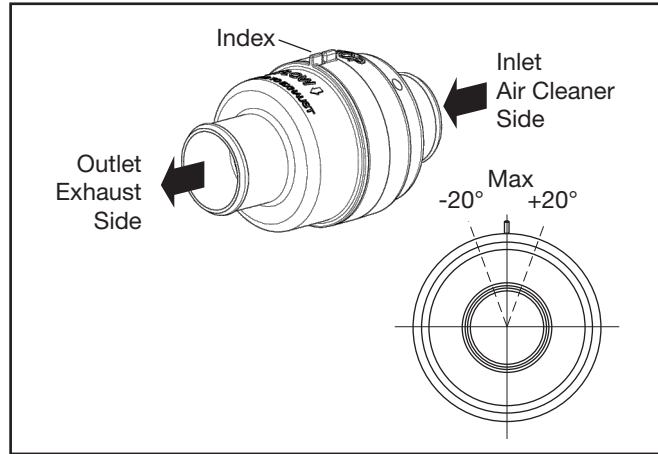

Figure 1 - Check Valve
4. The check valve must be located between the exhaust aspiration device and the air pre-cleaner of the air intake system. See Figure 1.